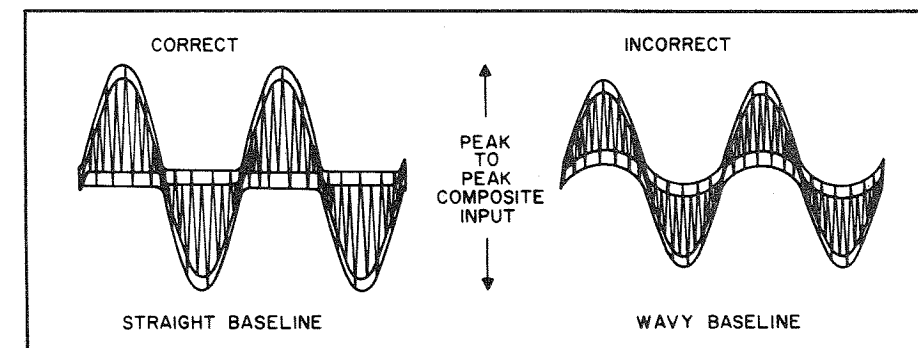

Figure 10. Composite Input To Multiplex Decoder.
(1) Disconnect the jumper lead going to pin 4A (on AM/FM IF, MPX board) and connect the output of the multiplex generator through a 15k resistor to pin 4A.
(2) Connect DC VTVM to Test Point 403 (on AM/FM IF, MPX board). Connect the vertical input of the scope to pin 4A.
(3) Set MPX generator for 19 kHz pilot carrier output only. Adjust pilot level for approximately 120 mV peak-to-peak input at pin 4A.
(4) Adjust cores of Z401 and Z402 (on AM/FM IF, MPX board) for maximum reading on DC VTVM (2.5 to 4 VDC).
(5) Connect output of audio generator, set for 1 kHz, to the external modulation input of MPX generator and to the external sync input of an oscilloscope. Adjust audio generator level for 1.2 volts peak-to-peak composite MPX input (10% pilot, 90% audio). See Figure 10. Modulate right channel only. Proceed with Steps (5) through (10) of PREFERRED ALIGNMENT PROCEDURE.
(6) Reconnect the jumper lead going to pin 4A (on AM/FM IF, MPX board) removed previously.